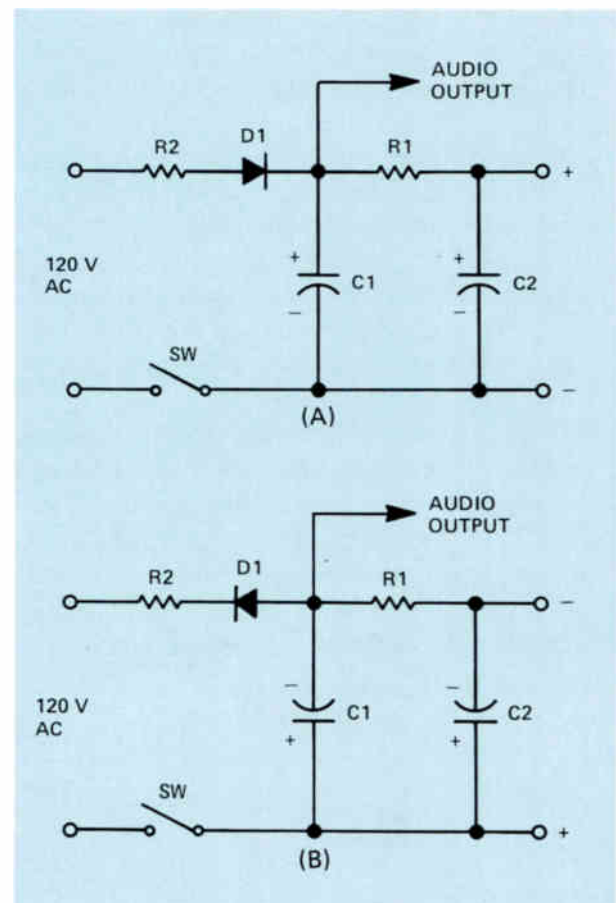

Figure 20. Universal ac-dc power supplies
Two ac-dc power supplies are shown in Fig.20. In the circuit shown at (A), the negative terminal of the power supply is the common terminal and two positive output voltages are available. The one at C2 will be a well-filtered low voltage. The output taken from across C1 will be a higher voltage, but it will not be as well filtered.
8. In the power supplies shown in Fig.20(A) and (B), R2 is connected between the diode and the power line to:
- 19 The filter capacitors in Fig.20(B) are connected with the opposite polarity to those in Fig.20(A) because the rectifier is reversed.